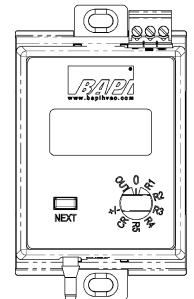

Figure 5: EZ Pressure with mounting tabs extended
- If not showing, pull the blue mounting tabs out as shown in Figure 5.